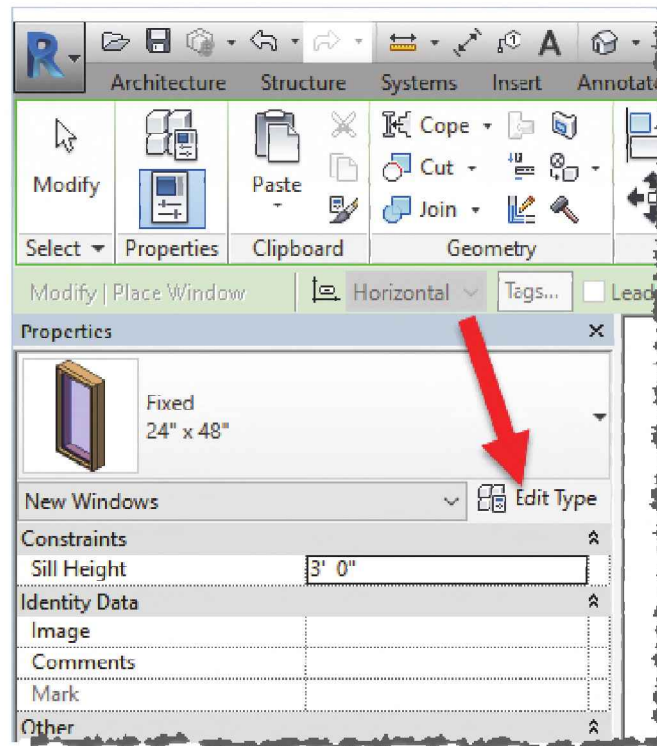

FIGURE 5-4.12 Window type properties
15. Select **Edit Type** from the *Properties Palette* (Figure 5-4.12).